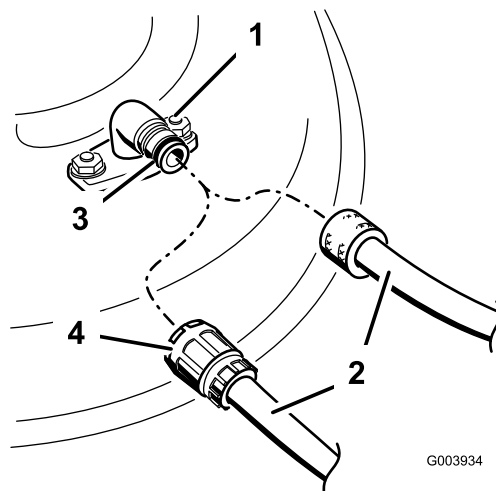

Figure 71
3. Attach the hose coupling to the end of the mower washout fitting, and turn the water on high (Figure 71).